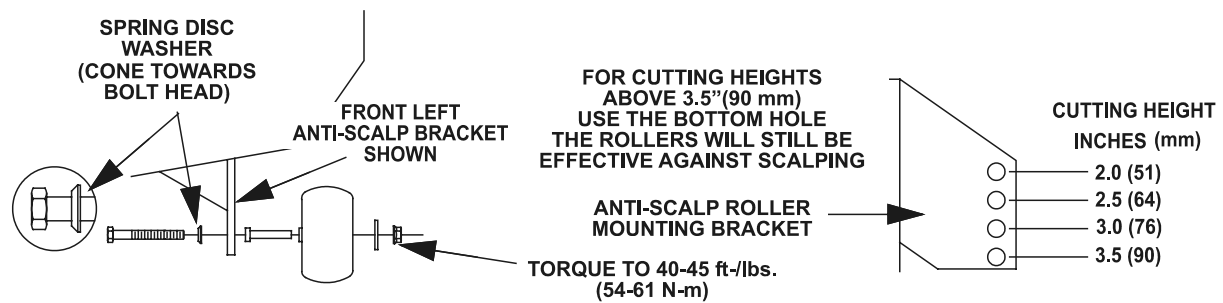

FIGURE 8
g) Adjust anti-scalp rollers for Normal Operating Conditions. Stop engine, wait for all moving parts to stop, and remove key. Place rollers in one of the positions shown in Figure 8. Rollers will maintain 3/4 in. (19 mm) clearance to the ground to minimize gouging and roller wear or damage.